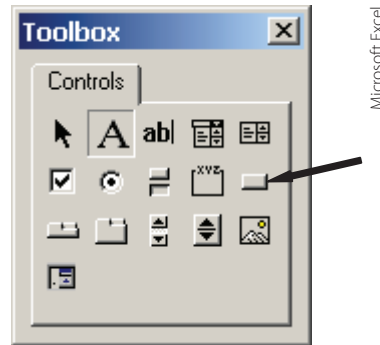

FIGURE 14.66
16. Next, using the Toolbox Command button shown in Figure 14.66, create a Calculate and a Done button.